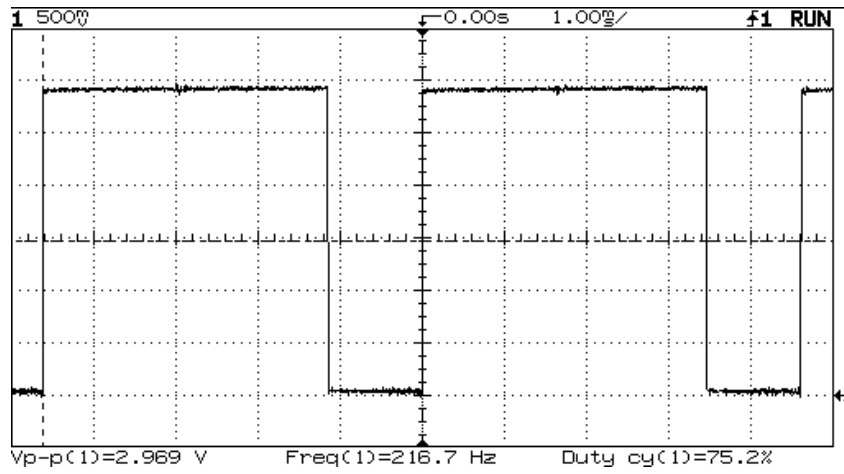

Fig. 4.7 PCN\_ON
5. **GSM\_ON** ( Control signal from Superchip which switches 2.85V through to GSM\_PRE\_ON). See figure 4.7.